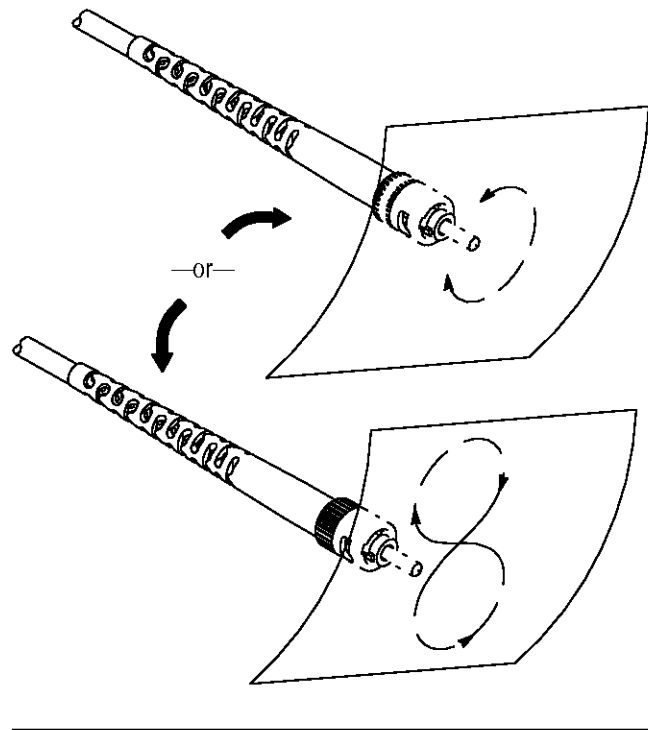

Figure 15
2. While holding the film in the air, form a concave shape, and air polish the connector tip by gently rubbing the tip of the connector in small circles or figure-8 motions until the protruding stub of the cleaved fiber is flush with the ferrule surface. Refer to Figure 15.